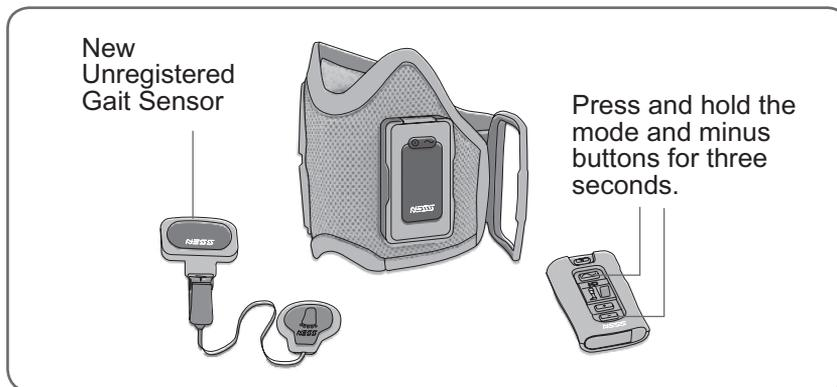

Figure 39: Registering a new Gait Sensor.
2. Place the new Gait Sensor, FS Cuff with RF Stim Unit, and Control Unit close together on a table but not touching. See Figure 39.